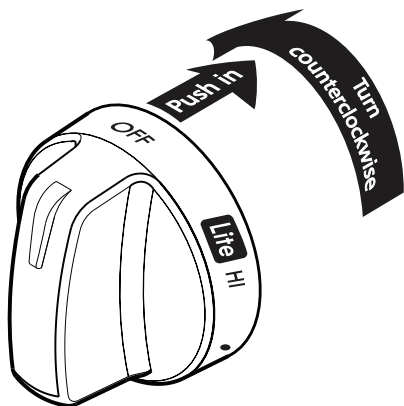

Figure 8: Correct way to set burners
2. Push the desired surface control knob in and turn counterclockwise out of the **OFF** position and rotate to the **Lite** position. Visually check that the burner has lit (See Figure 8).